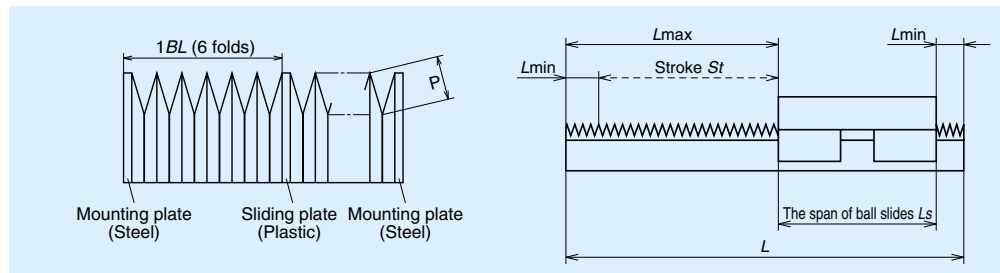

Fig. II-5-13
- A bellows forms one block (BL) with six folds as shown in Fig. II-5-13. Stroke is determined by multiplying by an integer of this BL.